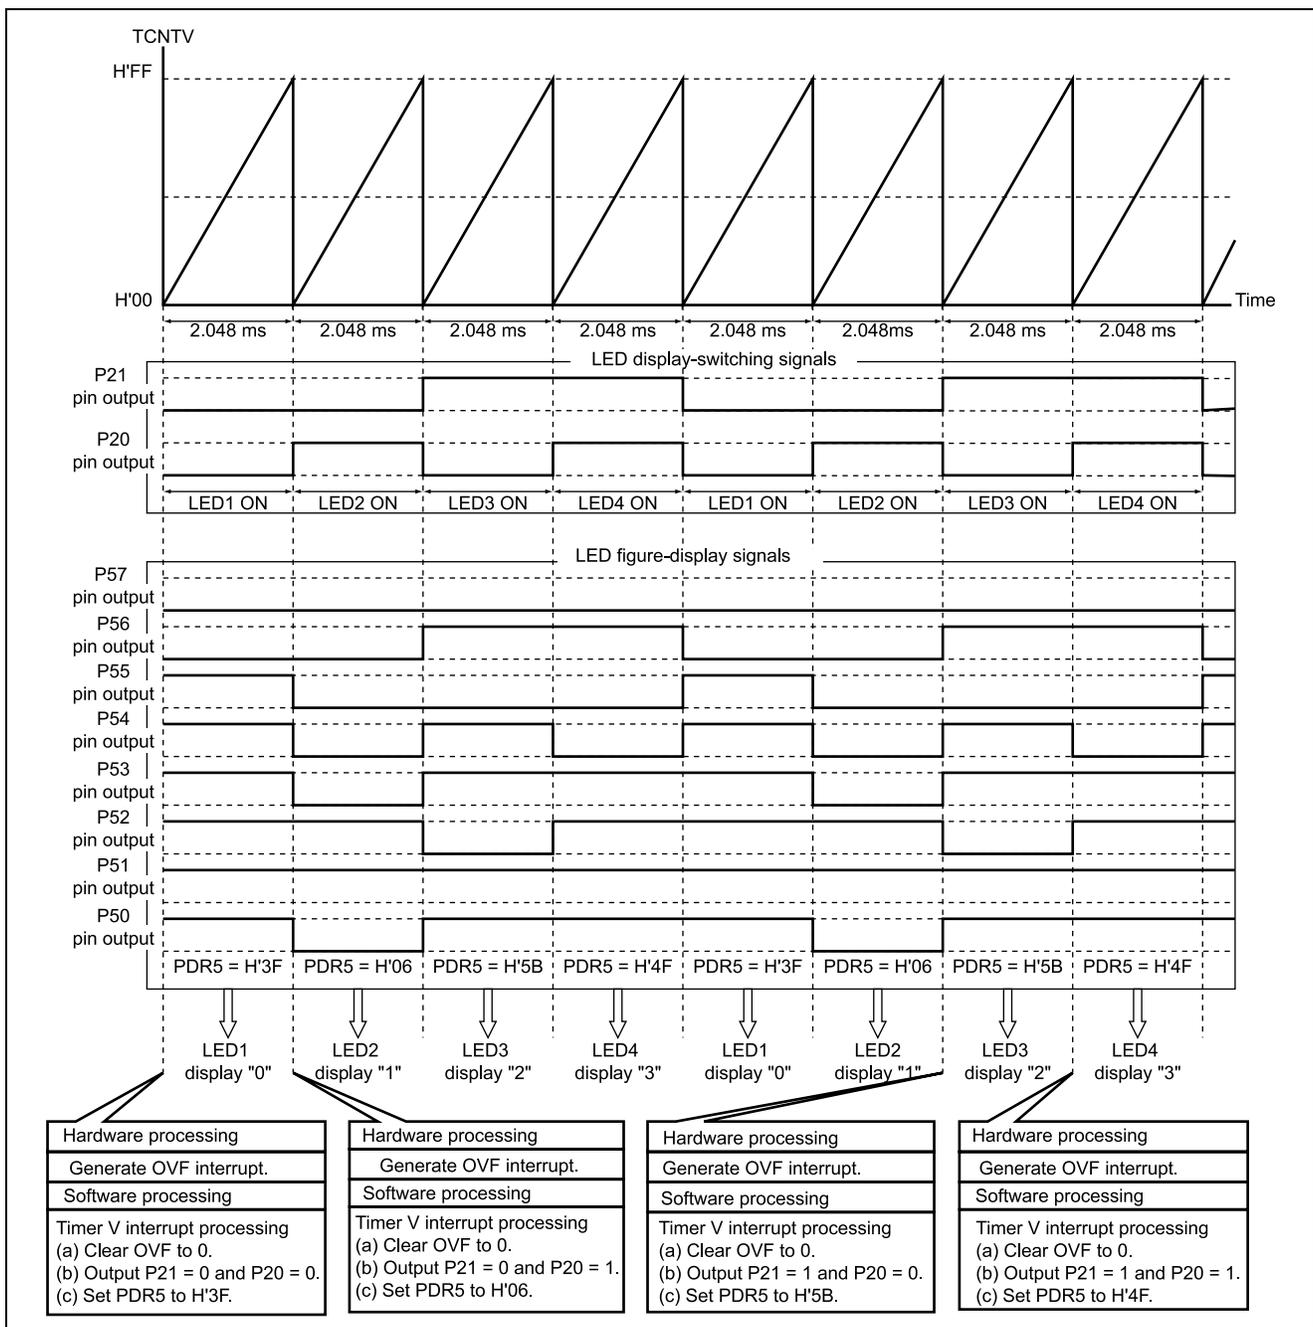

Figure 3.2 Principle of Operation of 7-Segment LED Display Control
2. The principle applied in controlling the 7-segment displays is explained below. Figure 3.2 depicts the situation where 3210 is being displayed on LED4 to LED1. As the figure shows, the next display in sequence of LED1 to LED4 is lit up each time a timer-V overflow period elapses, creating a dynamic display on the 7-segment LED.